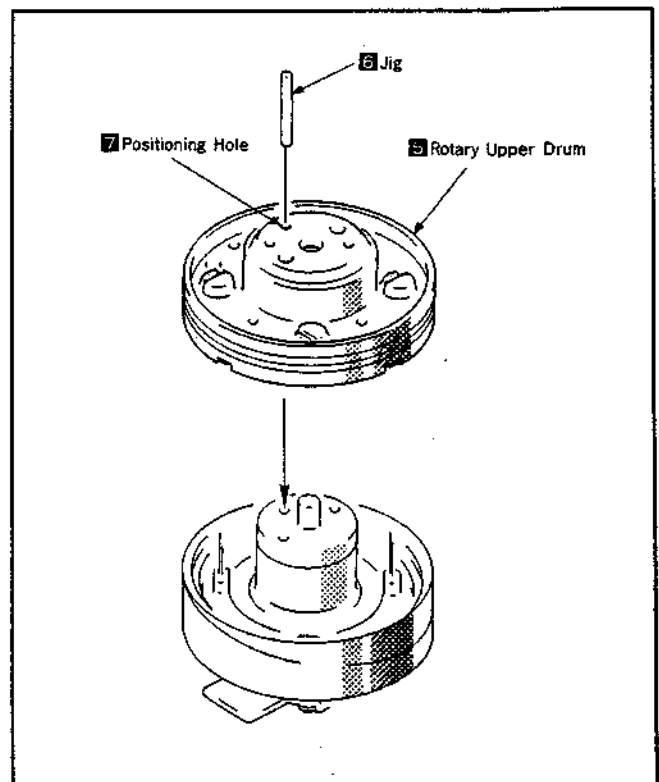

Fig. 31
- 2) Insert the jig **6** (Ref. No. J-10) into the drum positioning hole **7**, then set the rotary upper drum **5** by passing the jig through its positioning hole **7**. (Fig.31)